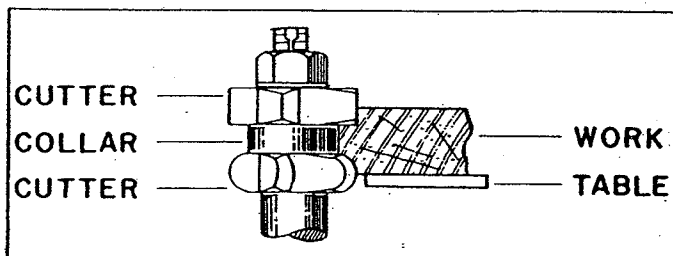

Fig. 33
4. The collar between cutters method, as shown in Fig. 33, has both the advantages and disadvantages of the first two methods and is frequently used where both edges of the work are to be moulded.